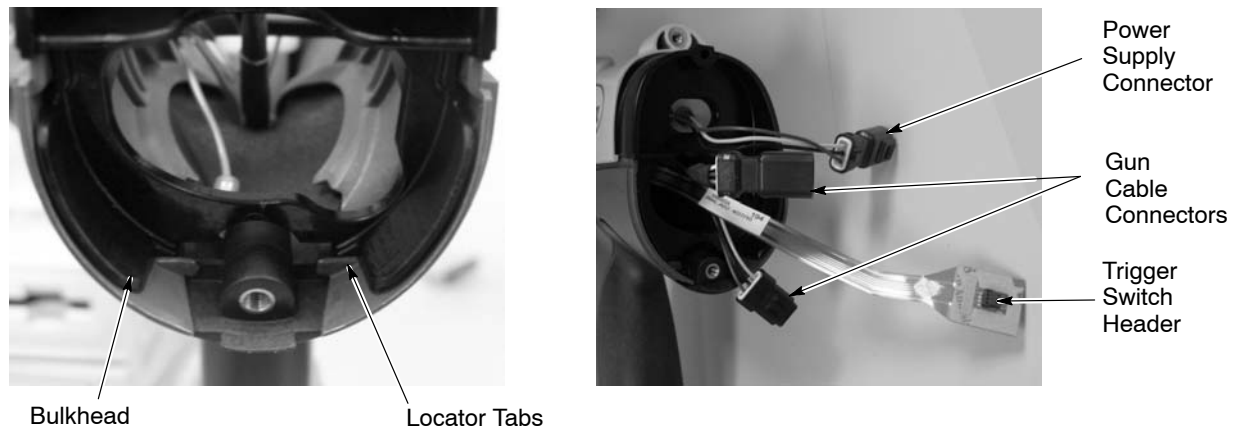

Figure 9 Installing the Bulkhead and Routing Cables and Trigger Switch Header
10. See Figures 9 and 10. Position the bulkhead (8) included with the upgrade kit behind the locator tabs and rotate the top of the bulkhead forward until it snaps into place on the handle and gun body.
13. Insert the outlet tube (14) with O-rings installed through the front of the gun body until the tube end is even with the end of the gun body.
14. Make sure the O-ring is installed in the groove on the inlet powder tube. Install the elbow (13) onto the end of the inlet tube.